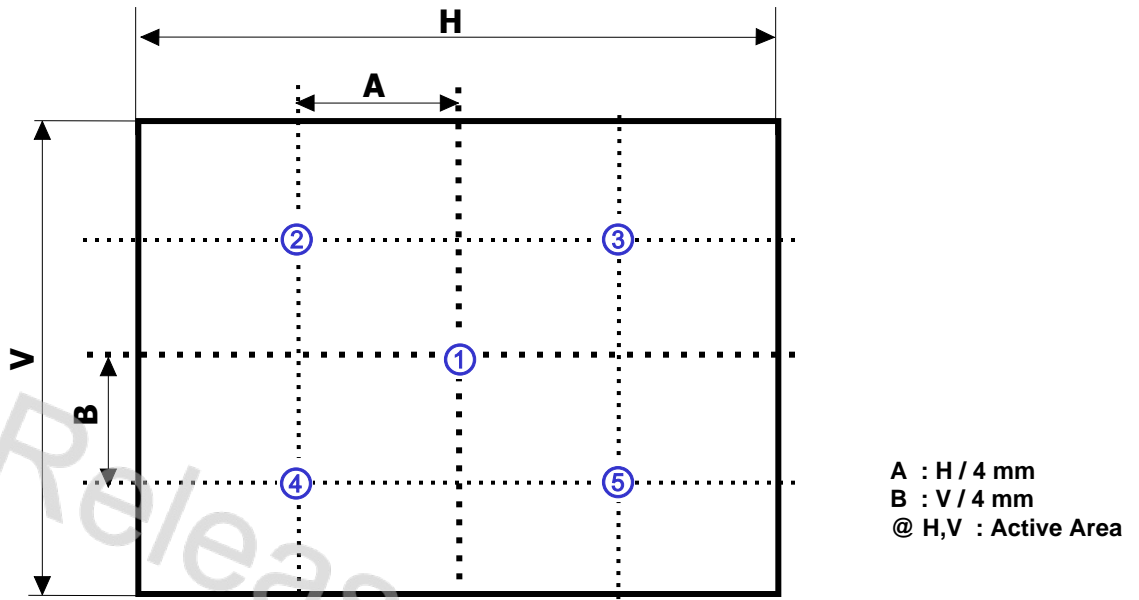

FIG. 2 5 Points for CR Measure
n = the Position number(1, 2, 3, 4, 5). For more information, see FIG. 2.
2. Surface luminance are determined after the unit has been 'ON and 60min after lighting the backlight in a dark environment at $25 \pm 2^\circ\text{C}$. Surface luminance is the luminance value at center 1-point across the LCD surface 50cm from the surface with all pixels displaying white. For more information see the FIG. 2.
For more information, see the FIG. 2.